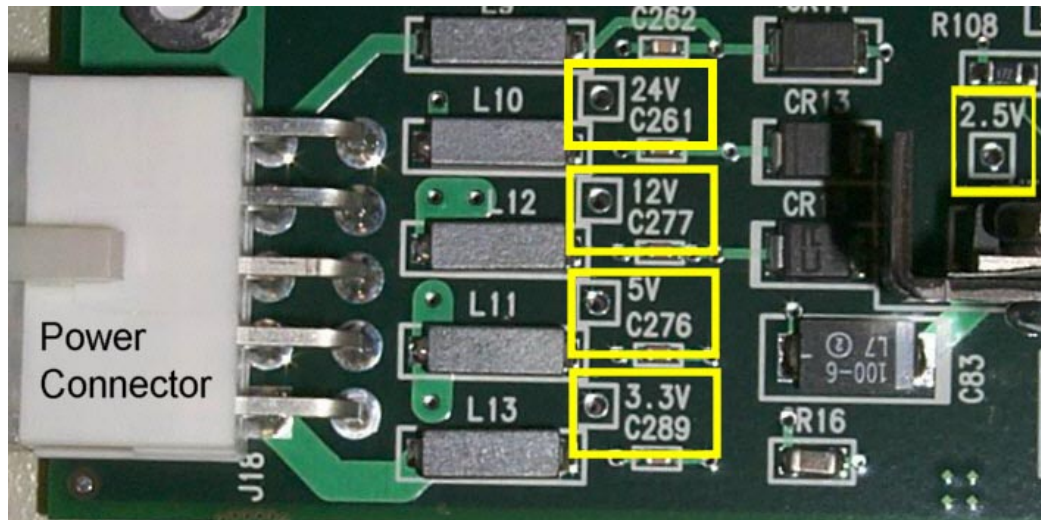

Figure 3-54
1. Verify the voltage at the IVS board. Measure voltage at the pads located at the lower left corner of the IVS board. (Figure 3-54)